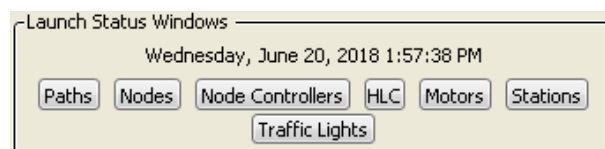

Figure 2: Launch Status Windows Section
Transport system status is available through the **Launch Status Windows** section. See Figure 2 and the Launch Status Windows section in the *NCHost TCP Interface Utility User Manual* for detailed descriptions of all items).
1. In the **Launch Status Windows** section (see Figure 2), select **Traffic Lights**.